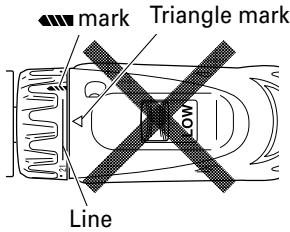

Fig. 10
- (1) When using this unit as a screwdriver, line up the one of the numbers "1, 3, 5 ... 21" on the clutch dial, or the black dot, with the triangle mark on the outer body.
- (2) When using this unit as a drill, line up the clutch dial drill mark "▲" with the triangle mark on the outer body.
- Do not use with the clutch dial set at the line between the number "21" and the drill mark "▲". Doing so may cause damage (See Fig. 10).